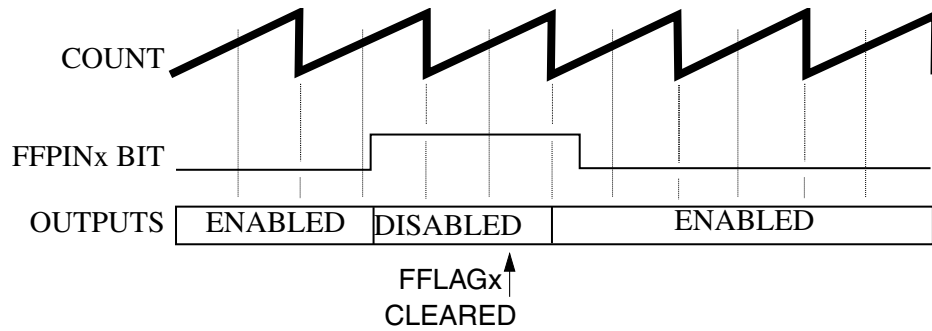

Figure 113. Manual fault clearing (FCTRL[FSAFEx] = 0, FSTS[FFULLx] = 1)
- The pins are enabled when the next PWM full or half cycle begins regardless of the logic level detected by the filter at the FAULT_x pin, as shown in Figure 113. If FSTS[FFULL_x] is set, then the disabled PWM pins are enabled at the start of a full cycle. If FSTS[FHALF_x] is set, then the disabled PWM pins are enabled at the start of a half cycle.